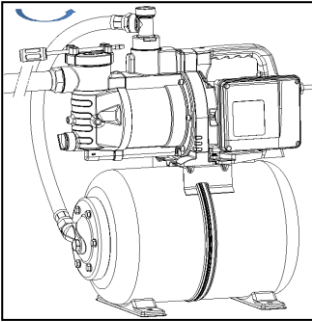

Fig.5
1. Open the filter lid by turning in counterclockwise rotation. You can take something like a screwdriver for help (Fig.5).